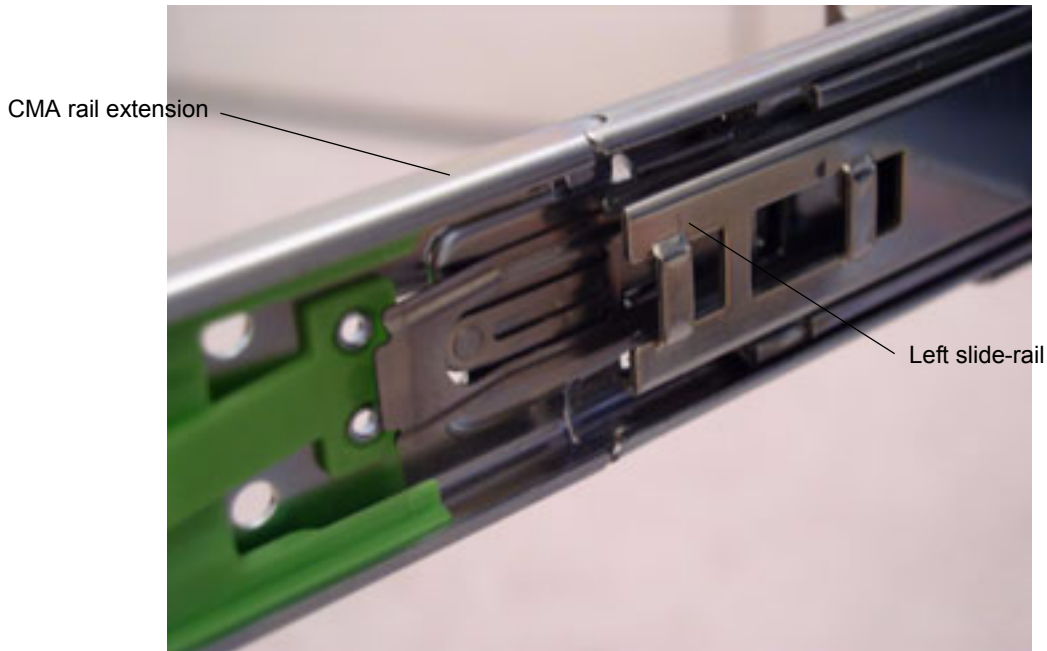

FIGURE 1-6 Detail of CMA Rail Extension Inserted Into the Left Slide-Rail
4. Verify that the CMA rail extension engages the slide-rail, as shown in FIGURE 1-6.